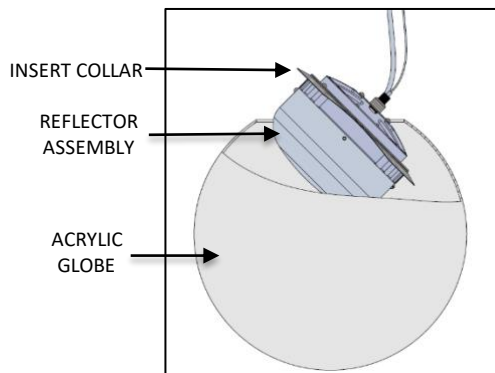

FIG. 17 – ACRYLIC GLOBE
8. Tilt and Slide the REFLECTOR ASSEMBLY through the ACRYLIC GLOBE as shown in FIG. 17.